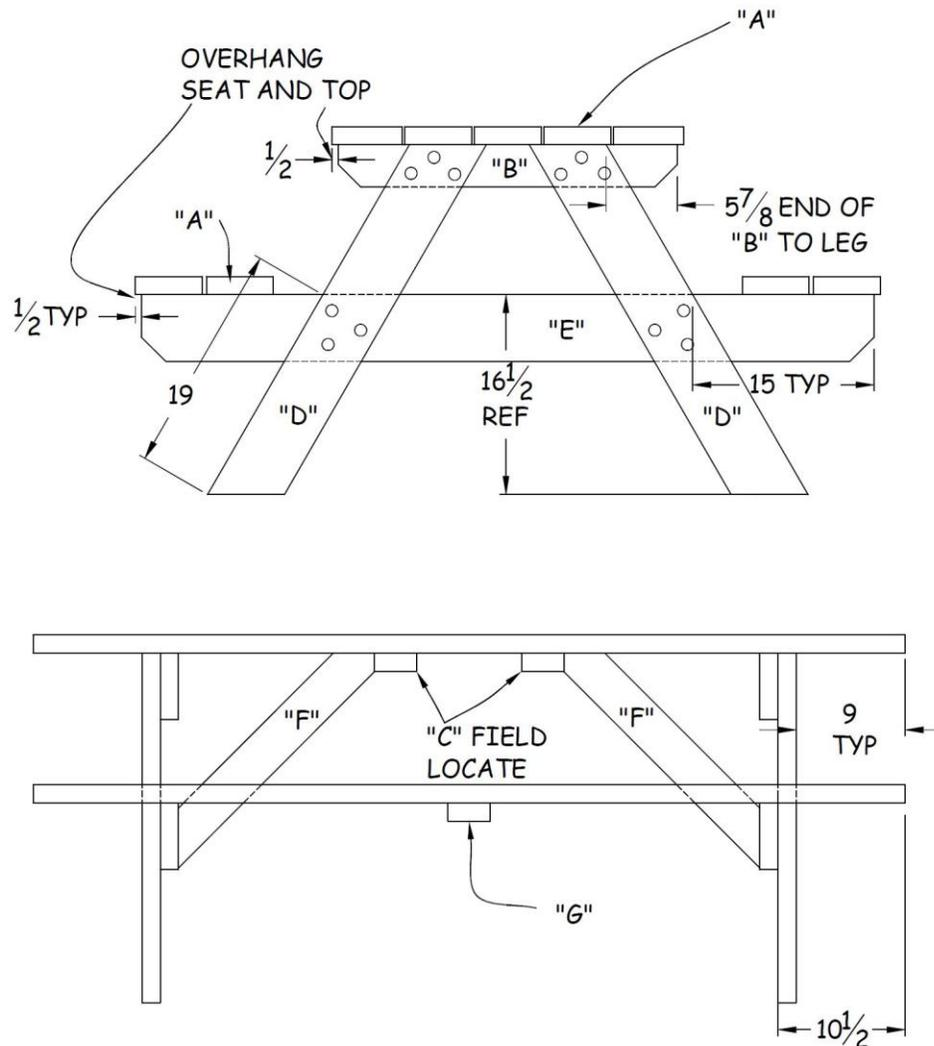

Figure 24-2. Picnic Table Assembly.
4. To build one leg assembly, place one Component “B” and one Component “E” parallel to each other on a flat surface. Lay a pair of legs (Component “D”) on top of the first two components so they approximate the arrangement in Figure 24-2. Place scrap 2x support blocks under the four intersection points.
5. Position the legs so they are inside the 6” marks on Component “B” and the cut angles of the legs are flush with the top of Component “B” (see Figure 24-2). Drill three 11/32” holes through each Component “D” into Component “B” at least 1” from the edges (to avoid component failure). Insert one 3½” carriage bolt into each of the six holes (to anchor the three pieces into position).
4. Drill two ⅛” pilot holes through the seat into each bench support, about 1” in from each edge of the seat. Attach the seat to the bench supports using 2½” deck screws at each anchor point (see Figure 24-2).
1. Position the tabletop pieces (Component “A”) centered on top the bench leg assemblies so that each end of a tabletop piece is 9” from the outside face of its associated Component “D”. Position the outside two tabletop pieces so they each extend $\frac{1}{2}$ ” beyond the ends of both Component B pieces. Space the interior three tabletop pieces so the gaps between the boards are equal and the table top is evenly distributed across the top of the Component “B” pieces (see Figure 24-2).
3. Attach an angle support (Component “F”) to the center of Component “E” on one leg assembly using two $2\frac{1}{2}$ ” deck screws. Make sure the double-notched end is positioned up, flush to the underside of the table top, and located in the center of the table. See Figure 24-2 for proper location of pieces.